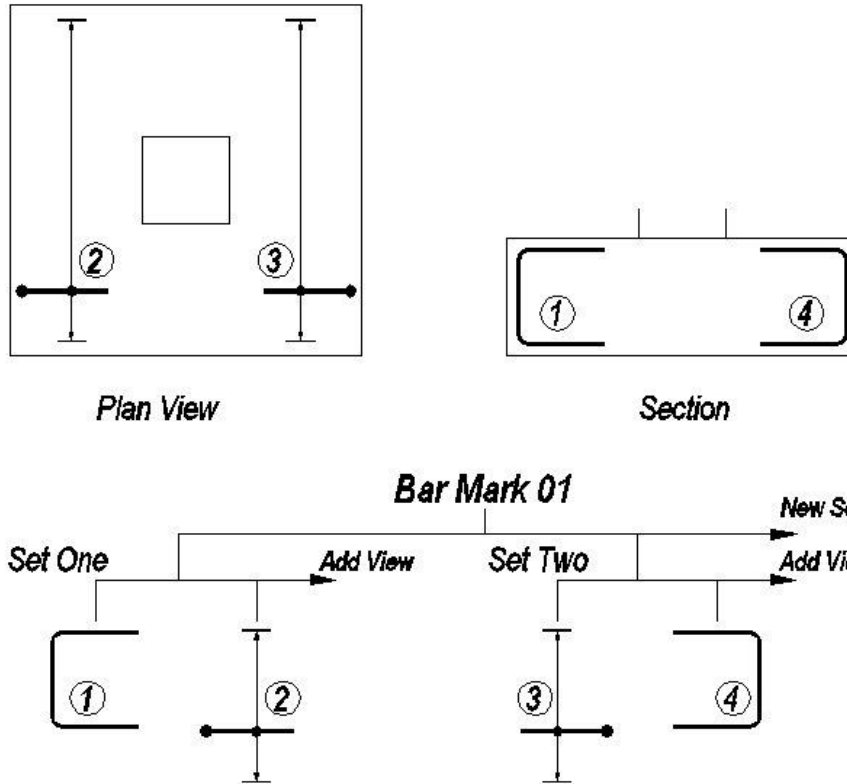

Figure 2.6.3:1 Illustrates a simple Pad Base with Bar Mark 01 shown within two ranges.
- ▶ Draw Range – New Set is used to place a second instance of Bar Mark 01 in the plan and shows a bar plus its Range Line. The New Set command repeats the Bar Mark Number and allocates a line in the Schedule. Item 3 shows in Set Two of Bar Mark 01 in figure 2.6.3:1 above;